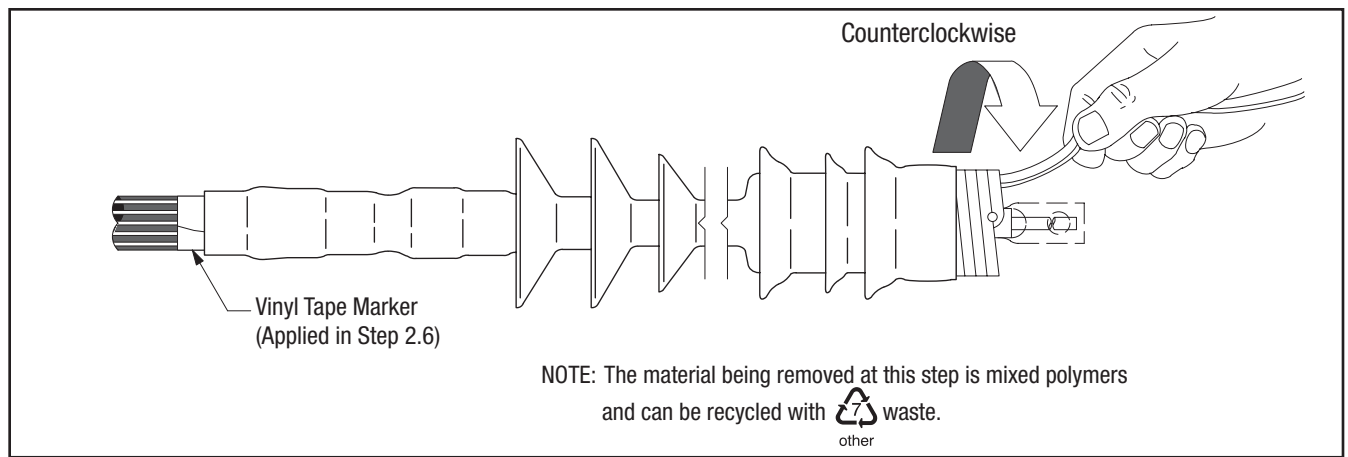

Figure 5
- 5.1** Slide the termination body onto the cable and remove core. Make sure the termination body (not the core) is butted up to the edge of the vinyl tape marker previously applied (Figure 5). Pull the core while unwinding, counterclockwise, starting with the loose end (Figure 5). Be sure to alternate the pulling and unwinding actions (pull-unwind-pull-unwind-etc.) to help prevent the core material from binding up as the core is being removed.